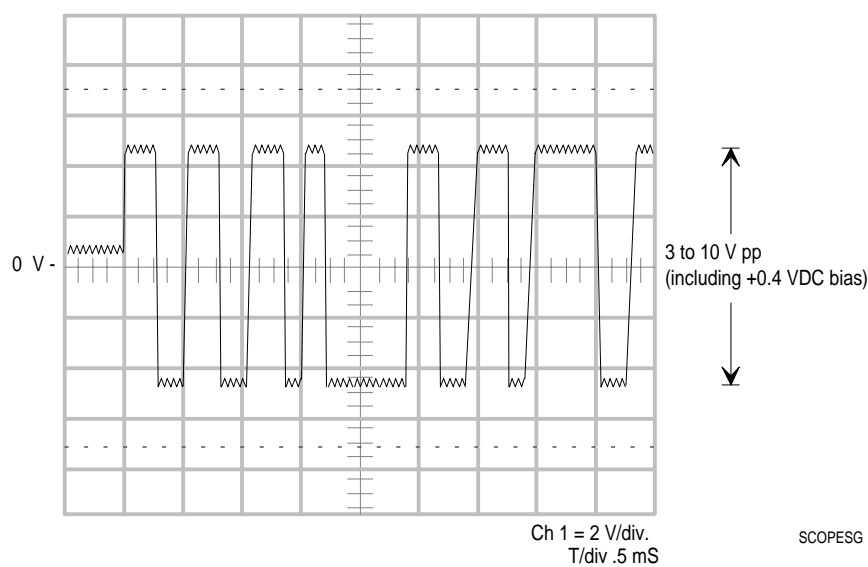

Figure 28: N2 Bus Signal as Measured with Oscilloscope
7. Compare the signal you measure with the wave form in Figure 28. They should resemble the figure. A signal outside this range indicates that the N2 Bus is not functioning properly.